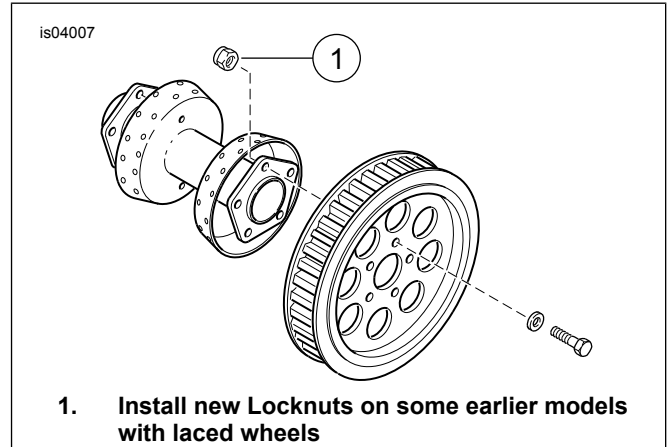
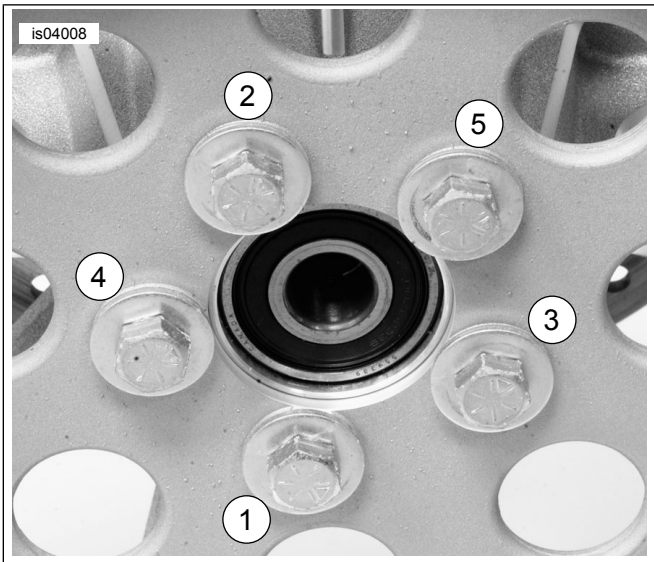

Figure 1. Earlier Models with Laced Rear Wheel
Figure 2. Tightening Sequence (Earlier Laced Wheels)
4. See Figure 1. Obtain new original equipment locknuts and install on the screws. See Figure 2. Tighten all screws in the sequence shown to 45-55 ft-lbs (61-75 Nm).